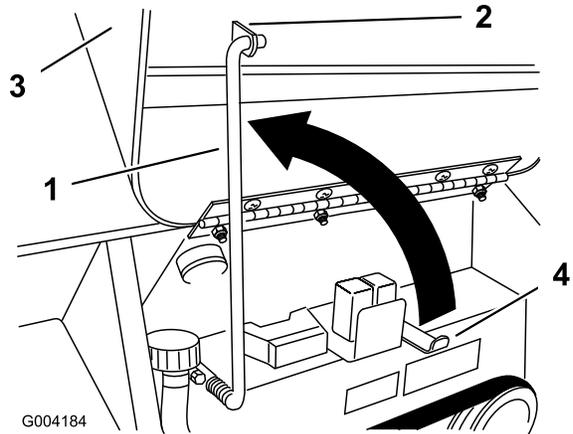

Figure 18
3. Swing the prop rod up and secure it in the bracket on the hood (Figure 18).